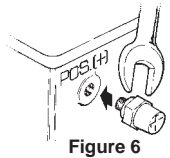

Figure 6
1. Using a 7/8" wrench, take Post Adaptor off top of unit, install and tighten firmly into Pos.(+) side of vehicle battery [Fig.6].(See Note 4)